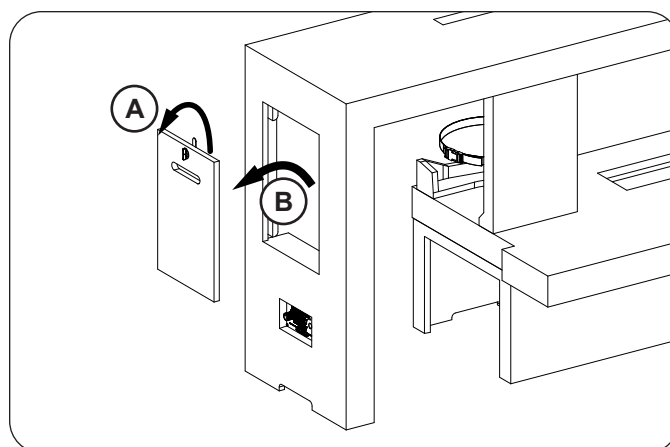

Fig. 21-4 Remove storage door (if applicable)
8. If equipped, remove the storage door by first turning the door handle counter-clockwise, then carefully pulling the door outward (see Fig. 21-4). Store in a safe location.